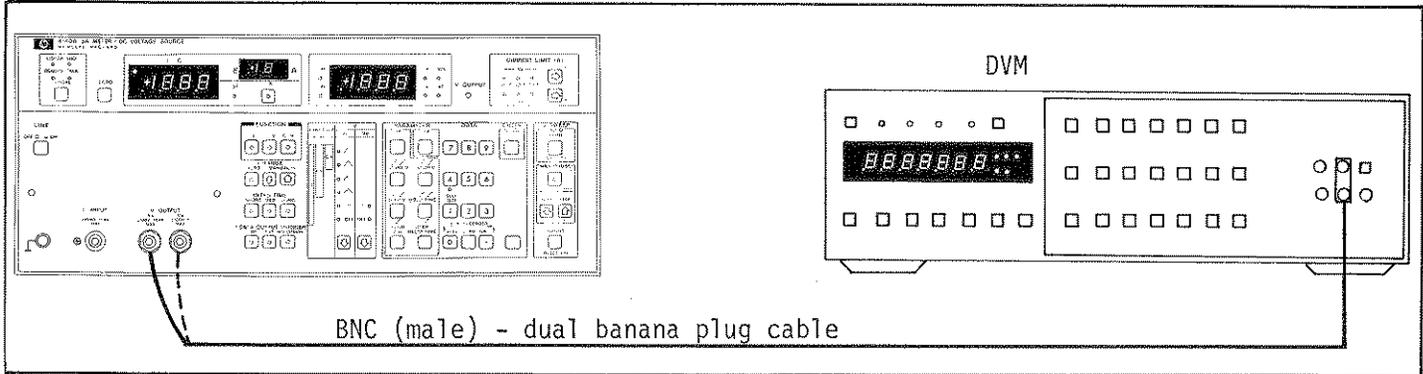

Figure 4-1. Voltage Output Accuracy Test Setup.
1. Connect BNC (Male) - dual banana plug cable between 4140A V_A OUTPUT connector and DVM (see Figure 4-1).